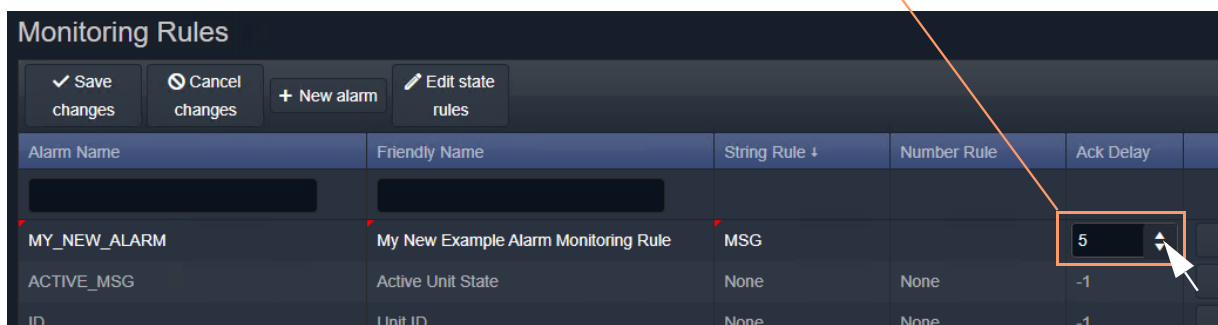

Figure 74: Select an Ack Delay Figure (seconds)
- If an auto-acknowledge is required, set the timeout period (**Ack Delay** figure in seconds, -1 = no auto-acknowledge). See Figure 74.